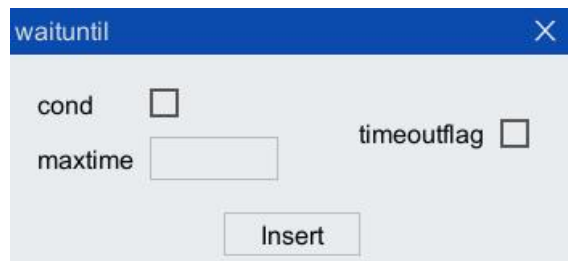

Figure 5-26 "waituntil" instruction configuration interface
Step1. Click "Insert Cmd> Process Control> waituntil" option in the toolbar of the program editor to pop up "waituntil" instruction box, as shown in Figure 5-26.